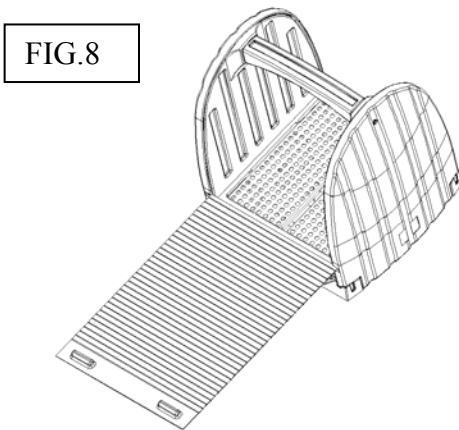

FIG.8
11) Place Part (H), tambour door with one extrusion, down on the floor handles up, in front of the unit. (See fig.8)